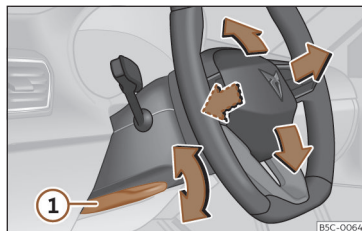

Fig. 83 Lever in the lower left side of the steering column.
- Pull lever >>> **Fig. 83** ① down, move the steering wheel to the desired position and lift the lever back up until it locks.
- After adjusting the steering column, push lever >>> **Fig. 83** ① firmly upwards so that the steering wheel does not accidentally change position while driving.